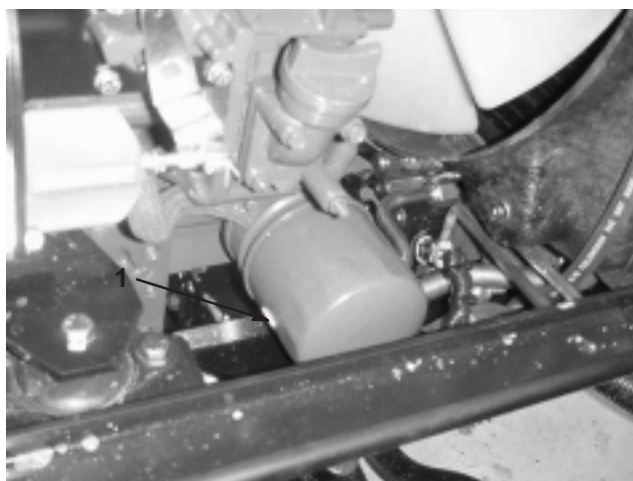

Figure 28
2. Remove the oil filter (Fig. 28). Apply a light coat of clean oil to the new filter seal before screwing it on. **Do not overtighten.**